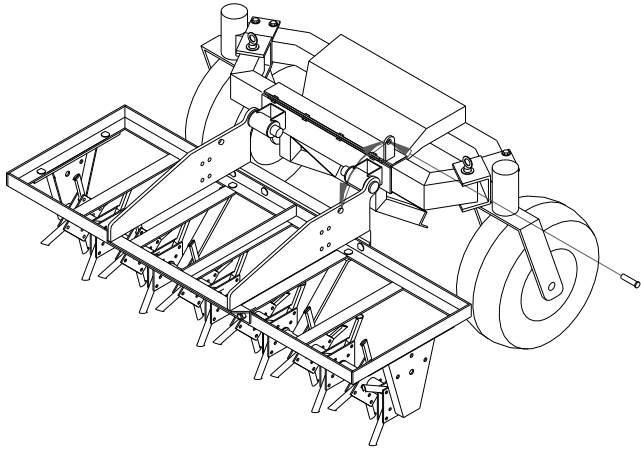

FIG. 7
7. Rotate aerator over into transport position and pin in place with $\frac{1}{2}$ " x 2" clevis pin and hairclip cotter pin. **FIG. 7**